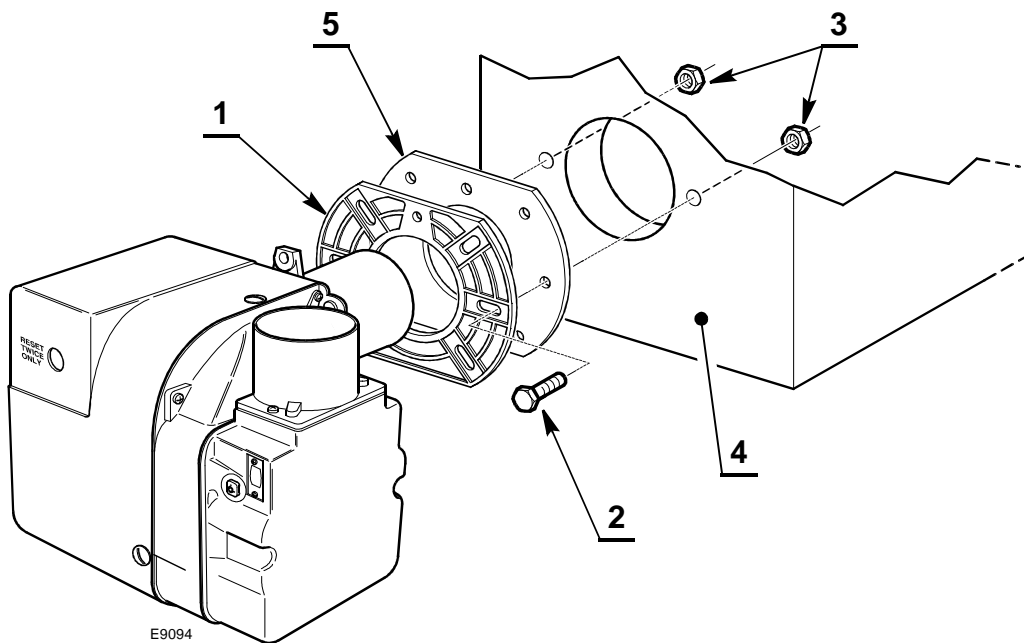

Fig. 8
- Fix the flange 1) to the appliance 4) using the supplied bolts 2) and nuts 3) with the gasket 5) in-between as in Fig. 8.